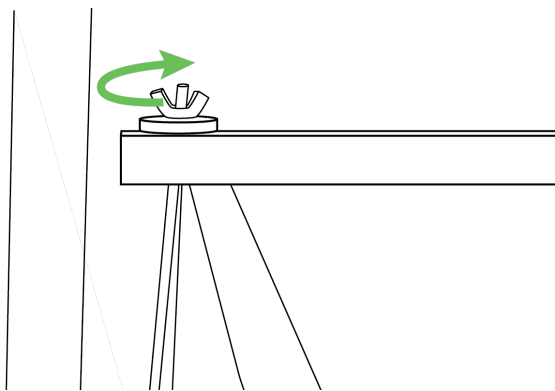

Figure 6-17. Tightening the wingnuts
5. Tighten the wingnuts to secure the printer in its compartment (Figure 6-17).